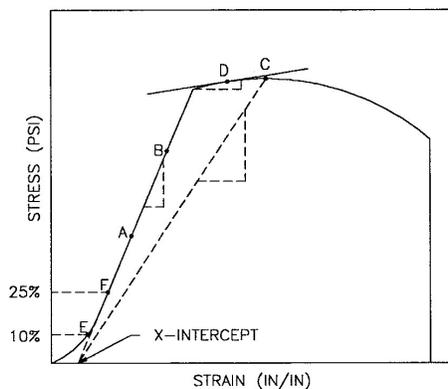

Figure AC.4: Stress/Strain Moduli
2. Add data points to 1. above first on the low end (below 10%) and then on the high end (above 25%) until the coefficient of determination (which is an indicator of quality of fit) decreases by 0.001. The number representing the slope of this line is Young's Modulus. This line is extended through the x-axis which establishes the curve-foot-offset. Young's Modulus is illustrated as points E and F in Figure AC.4.
R. Tangent Modulus is the slope of any tangent line at any point on the stress strain curve. It is illustrated as point D in Figure AC.4.
using the zero point on the graph. The other end of the secant line can be any point on the stress strain curve. This is illustrated by the dashed line between the x-intercept and point C on Figure AC.4.